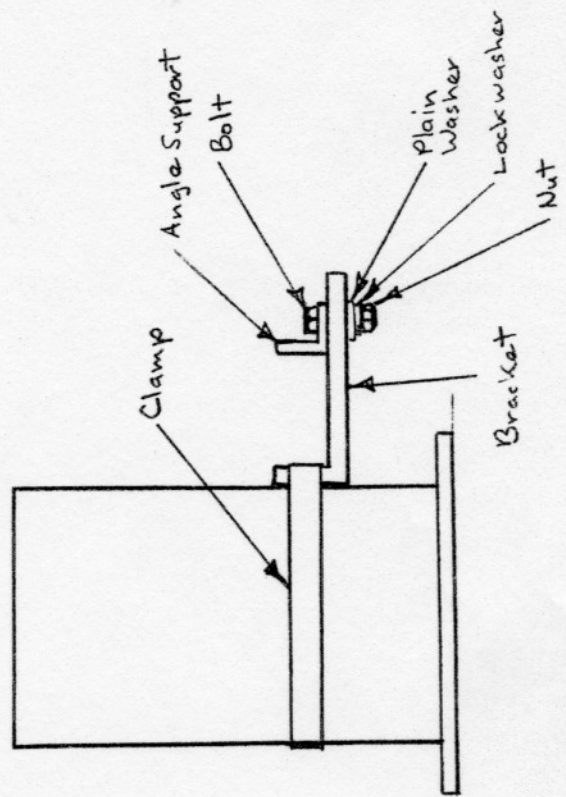

Figure 1B
4. Remove the brackets and install on the underside of each support so their tabs are flush with the motor and directed upwards as shown in Figure 1B. Secure with 1/4-20 x 3/4 inch bolts inserted from the top side with a plain washer, lockwasher and nut below each support. Finger tighten each nut.